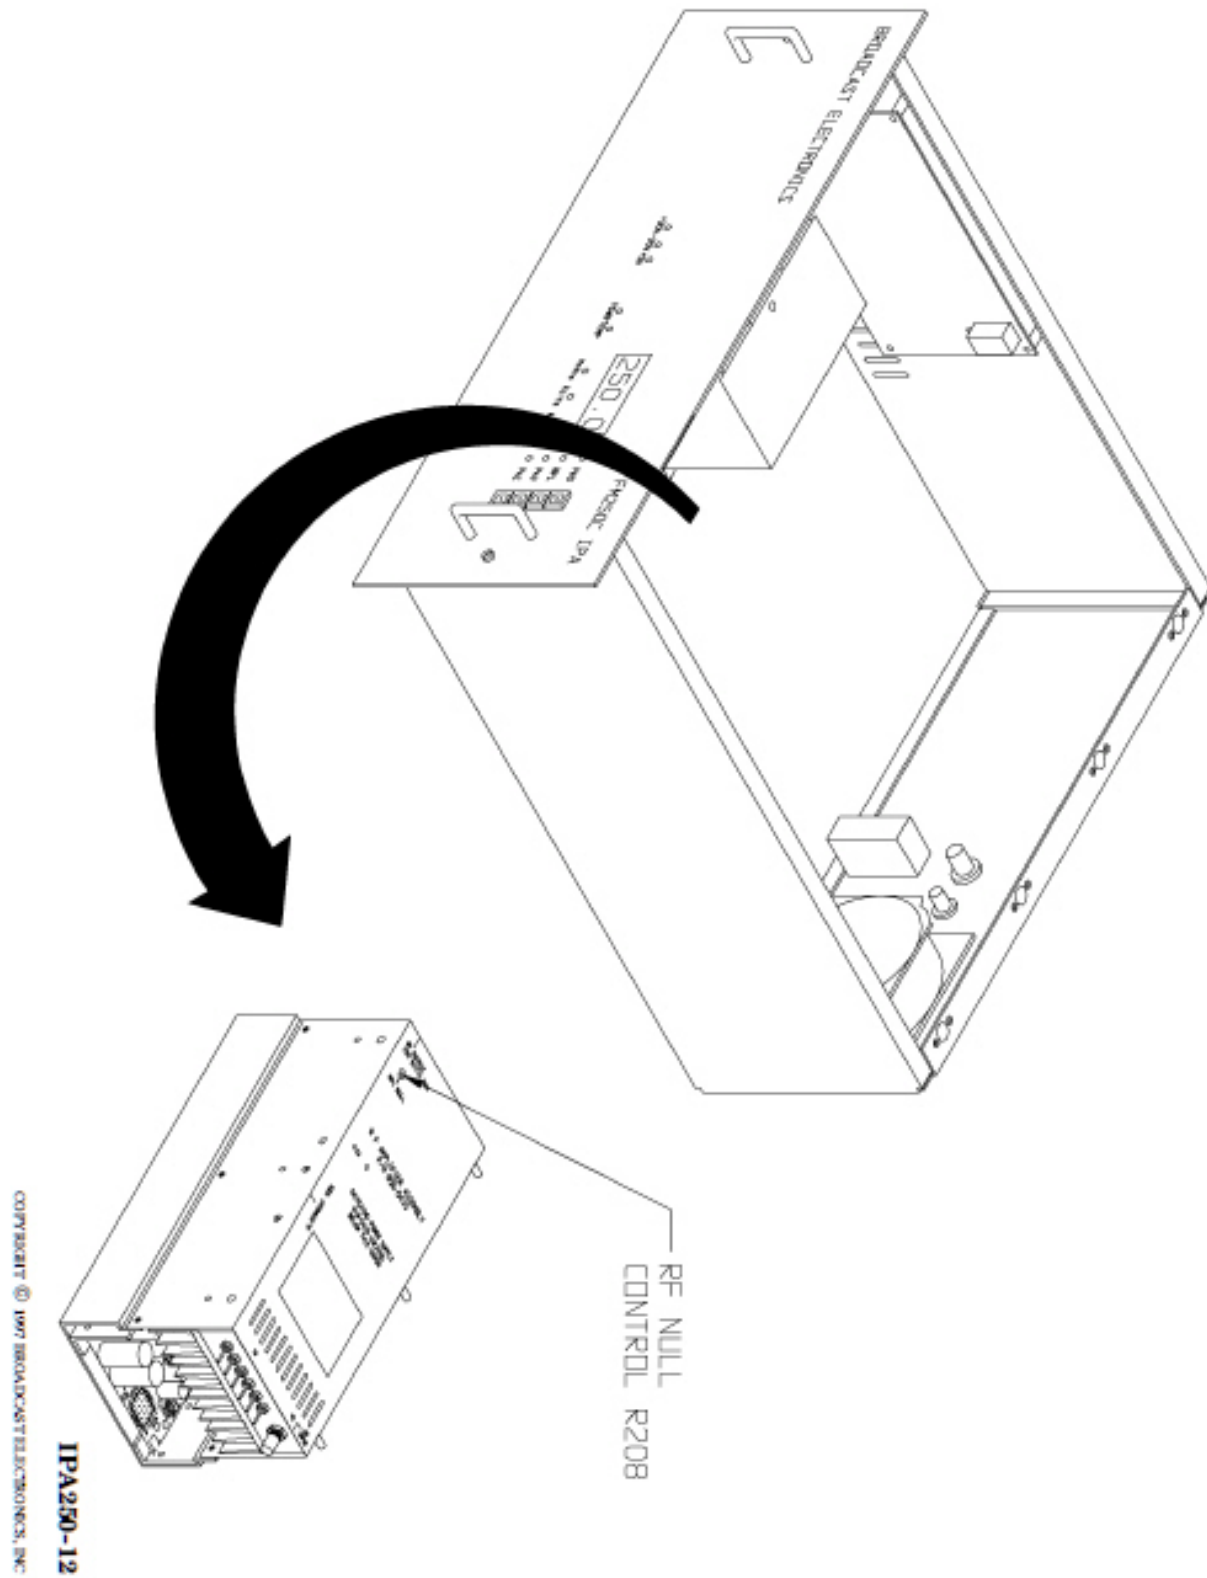

Figure 8-3. RF AMPLIFIER CIRCUIT BOARD CONTROLS.
- B. Remove the IPA unit top-cover and the access hole plug at the top and rear of the RF amplifier assembly (refer to Figure 8-3).
- F. Refer to Figure 8-3 and adjust R208 for minimum reflected power as indicated on the front-panel meter.